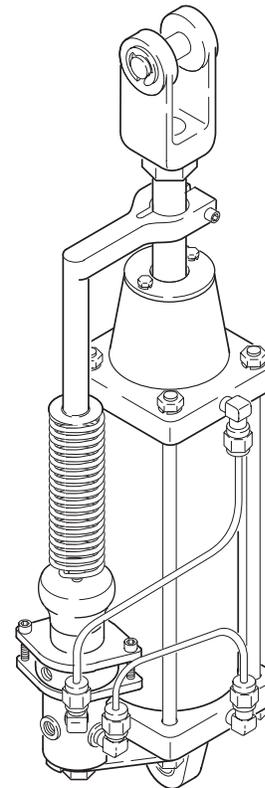

Figure 1-1. Standard 2-1/2 Inch x 5 Inch Power Positioner (Variable Position Pilot Valve Type)
1. The Standard Power Positioner, Figure 1-1, uses a variable, low pressure control air circuit and a pilot valve assembly to control the single pressure power air. The higher the control air pressure, the farther the piston extends. With this type of equipment, boiler controls can move the power positioner to any point along its five inch stroke.